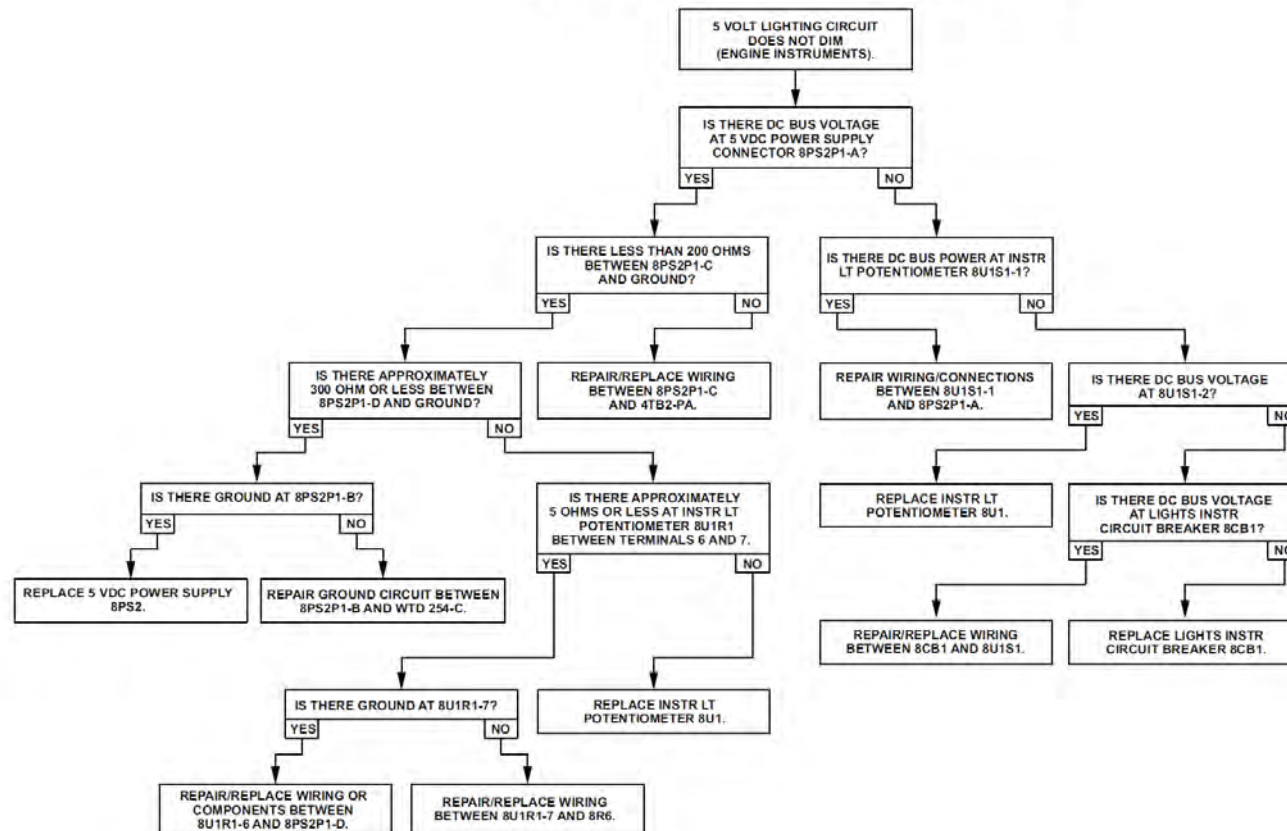

Figure 96-90: 5 VDC and 28 VDC Instrument/Control Panel Lighting Circuit – Trouble No. 1
- If the 5 VDC lights (engine instruments) do not come on dimmed, refer to Trouble No. 1 (Figure 96-90).